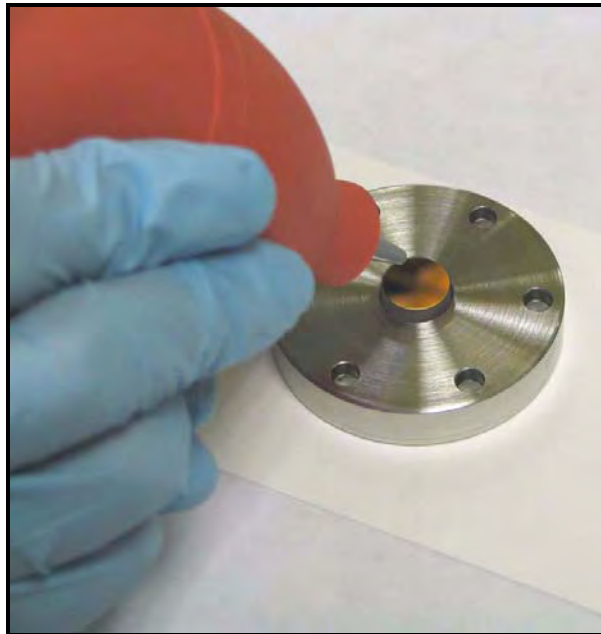

Figure 76: Blowing Air onto the Mirror
6. If the mirror is contaminated, the first step in cleaning it is to use the air blower to blow away any particulate matter on the mirror surface. Place the mirror assembly on a flat surface and repeatedly puff the air blower to force dry clean air onto the mirror surface (see Figure 76).